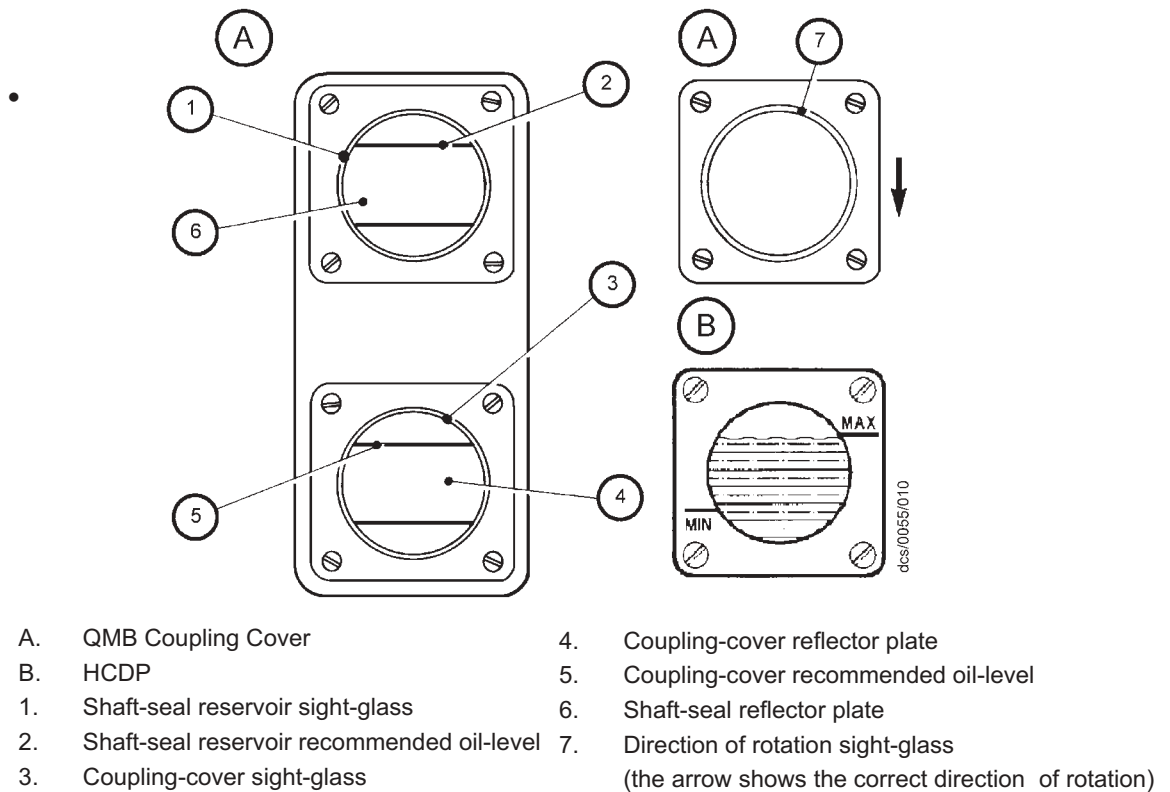

Figure 3-5 - Sight-glasses
Refer to Figure 3-5, detail B. Check that the oil-level is between the MAX and MIN marks on the bezel of the HCDP oil-level sight-glass:
We recommend that the coupling-cover oil-level is maintained at the recommended oil-level shown in Figure 3-5, item 5; if the oil-level is above or below the recommended oil-level, the performance of the pump may be affected. Do not allow the coupling-cover oil-level to fall below the bottom of the reflector plate (Figure 3-5, item 4) or the pump may be damaged.
2. Refer to Figure 3-5. Fill the coupling-cover with PFPE oil, Fomblin YVAC 16/6 or Krytox 1514, until the oil-level reaches the recommended oil-level (5) at the top of the reflector plate (4) in the coupling-cover sight-glass (3).
We recommend that you fill the shaft-seal reservoir so that the oil-level is at the recommended oil-level, shown in Figure 3-5, item 2. You can operate the pump as long as the oil-level is above the bottom of the reflector plate. Do not allow the shaft-seal oil-level to fall below the bottom of the reflector plate or the pump may be damaged. You must use the same oil you used to fill the coupling-cover.
2. Refer to Figure 3-5. Fill the shaft-seal reservoir with PFPE oil, Fomblin YVAC 16/6 or Krytox 1514, until the oil-level is at the recommended oil-level (2) at the top of the reflector plate (6).